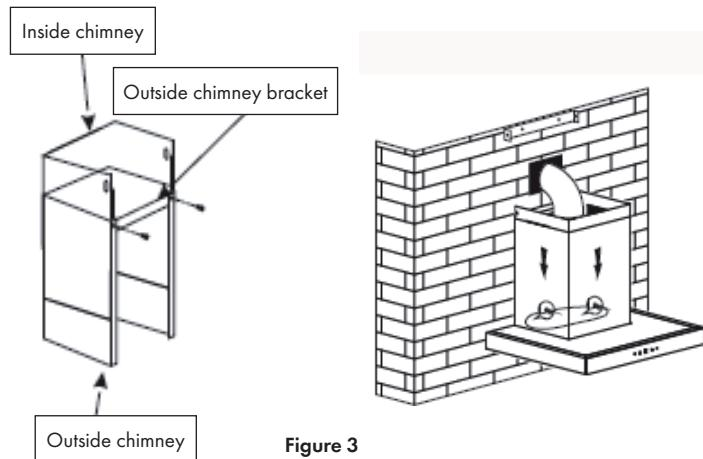

Figure 3
2. Install the V-flaps in the outlet, and fix the expansion pipe with cable tie on the outlet. Then hang the hood on to the hook (see figure 3).
Afterwards, install chimneys on the cooker hood. Lay the expansion pipe to the wall outlet. Fix the expansion pipe with the cable tie on the wall-outlet (see figure 3).
3. Adjust the height of the inside chimney to the position of the inside chimney bracket and fix on it by 2 screws (ST 4 * 8 mm). After adjusting the position, fix the body with safety screw (see figure 3 and 4).